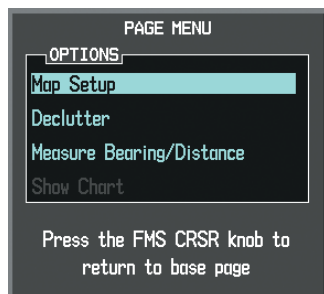

Figure 6-133 Navigation Map Page Menu
- 3) With Map Setup highlighted, press the **ENT** Key (Figure 6-133).